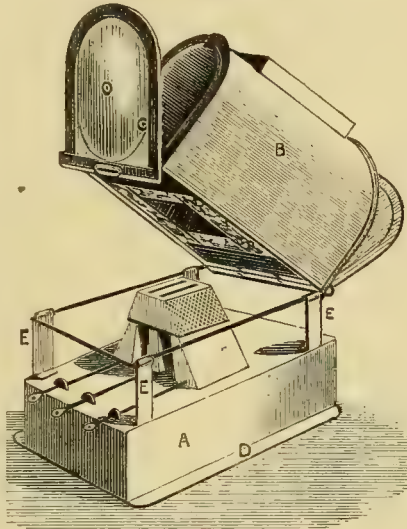
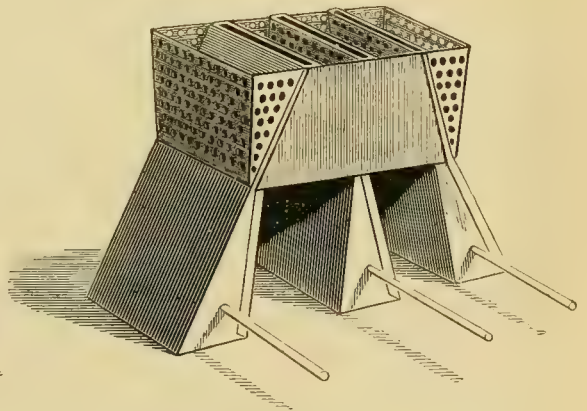

FIG. 13.—TRIPLEX LAMP WITH DOME RAISED.
FIG. 14.—WICK-HOLDERS, AND RODS FOR REGULATING WICK.
Fig. 13 shows the triplex lamp with the dome or top raised, and the doors open. A is the reservoir, $6\frac{1}{2}$ inches long by 4 inches wide by $1\frac{7}{8}$ inch deep; B, the dome $6\frac{1}{8}$ inches long by 4 inches wide by
FIG. 11.—DOUBLE CONDENSER OF (A) MENISCUS LENS AND (B) BI-CONVEX LENS. FIG. 12.—ANOTHER CONDENSER OF TWO PLANO-CONVEX LENSES. FIG. 13.—PLAN OF RESERVOIR WITH APERTURES FOR WICK-HOLDERS. FIG. 14.—TWO PIECES FOR WICK-HOLDERS. FIG. 15.—PIECES OF IRON FITTED INSIDE DOME. FIG. 16.—THE CHIMNEY.
$3\frac{1}{2}$ inches high. One end of the dome is closed by a piece of glass let into a frame, and the other end by a reflector, C, also inserted in a frame. E E is a frame or support for the dome to rest on, and to the front of which it is hinged. The three wick-holders, and the rods for regulating the wicks, are more clearly shown in Fig. 14.
troughs, arrange the wires and cog-wheels over the wick, and make a mark exactly where the wires are to pass through the sides of the trough, and then make the holes shown in the figure; they should be exactly the size of the wires. This done, put the wires through the first holes; fix two cog-wheels on to each wire about $\frac{3}{4}$ inch apart, put the end of the wires through the second holes and fix a couple of little metal washers on to the wires at E and E to keep them in their place. Try how they work with the wick, and if they work well, bend the other troughs slightly where the side cuts are until they exactly fit, then solder them on, and, lastly, fit them over the apertures in the top of the reservoir and solder them down. They are turned with the rods to the back of the lamp (the end of the reservoir opposite to that with the circular opening). Three little bits of brass about $\frac{3}{4}$ inch long, rounded at one end, and with an edge turned over at the other end, will make holders for the rods, as shown in Fig. 13. They are soldered on to the top of the reservoir near the back. Finally, three small brass knobs should be soldered
The support or frame (E, E, E, Fig. 13) is made of a piece of stout wire (galvanized iron wire is the best) and four, six, or eight pieces of block tin or brass $2\frac{1}{2}$ inches long and about 1 inch wide. First
square, with an aperture $2\frac{1}{8}$ inches by $1\frac{1}{8}$ inch in the middle, is riveted on to the other end-pieces, as shown in Fig. 13.